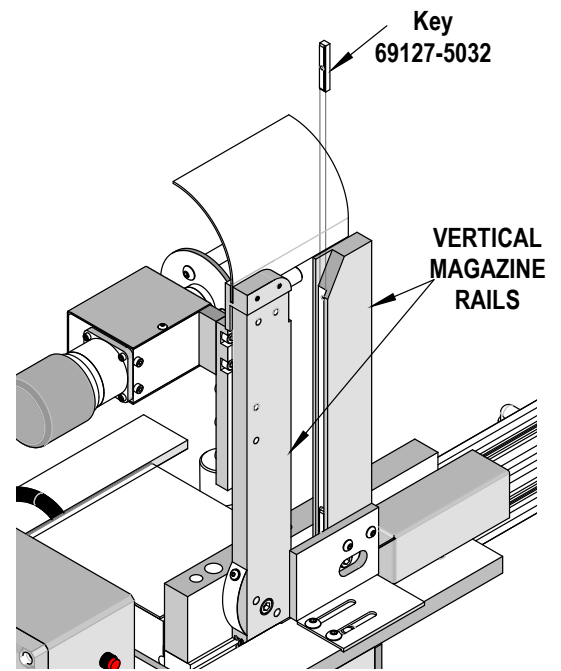

Figure 2-4
3. The key can be used in the other vertical magazine to change the orientation of the connector. See Figure 2-4.